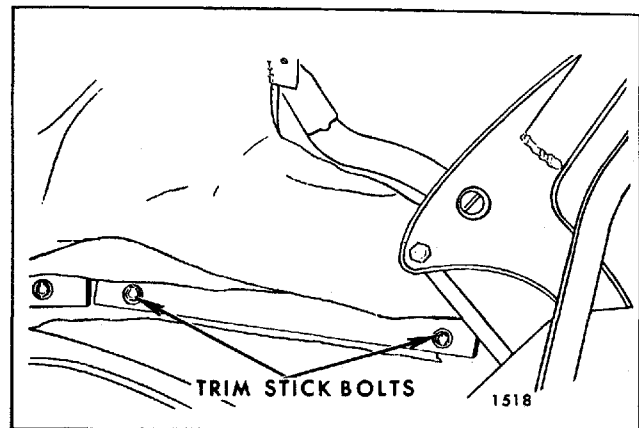

Fig. 6-6—Rear Quarter Trim Stick
18. At each rear quarter area remove attaching bolts securing rear quarter trim stick assembly to rear quarter inner panel (Fig. 6-6).